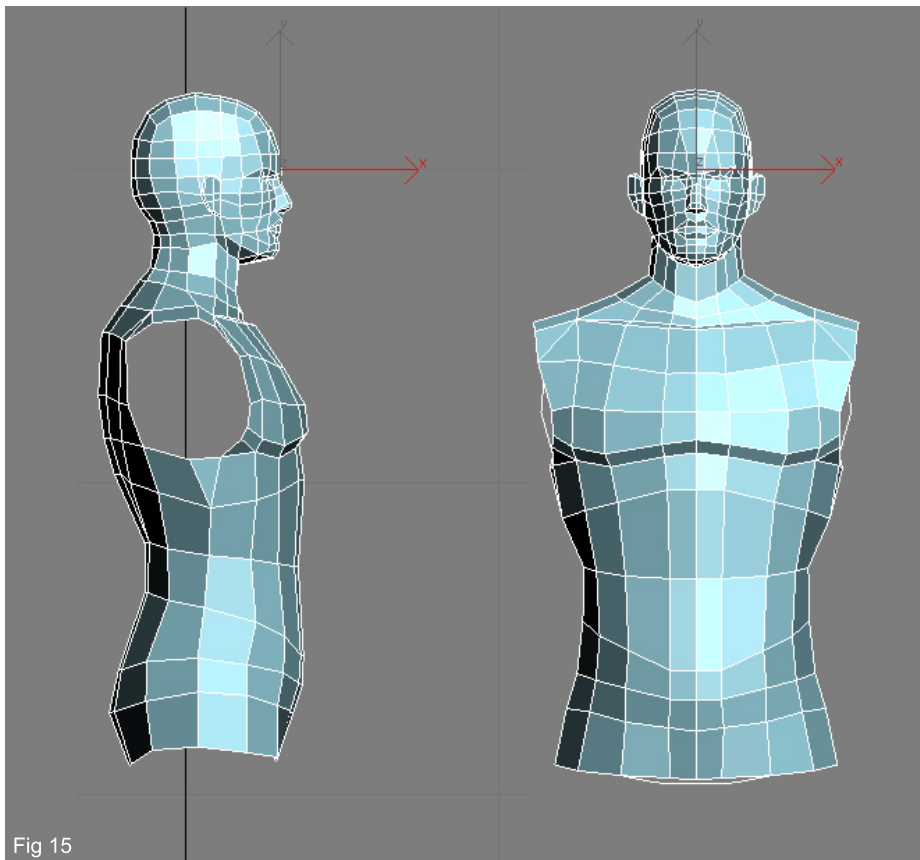

Fig 15
15. The next thing to do is to simply manipulate the newly created verts into positions that form the shape of the lower torso and top of the buttocks (Fig15). It is best to do this in the same way we began moulding the cube into a rough head shape, ie. move the verts first in the front view and then in the profile view before tweaking them in the User or Perspective viewports. The illustration shows a profile and front view which will give you a good idea about the positions of the verts.